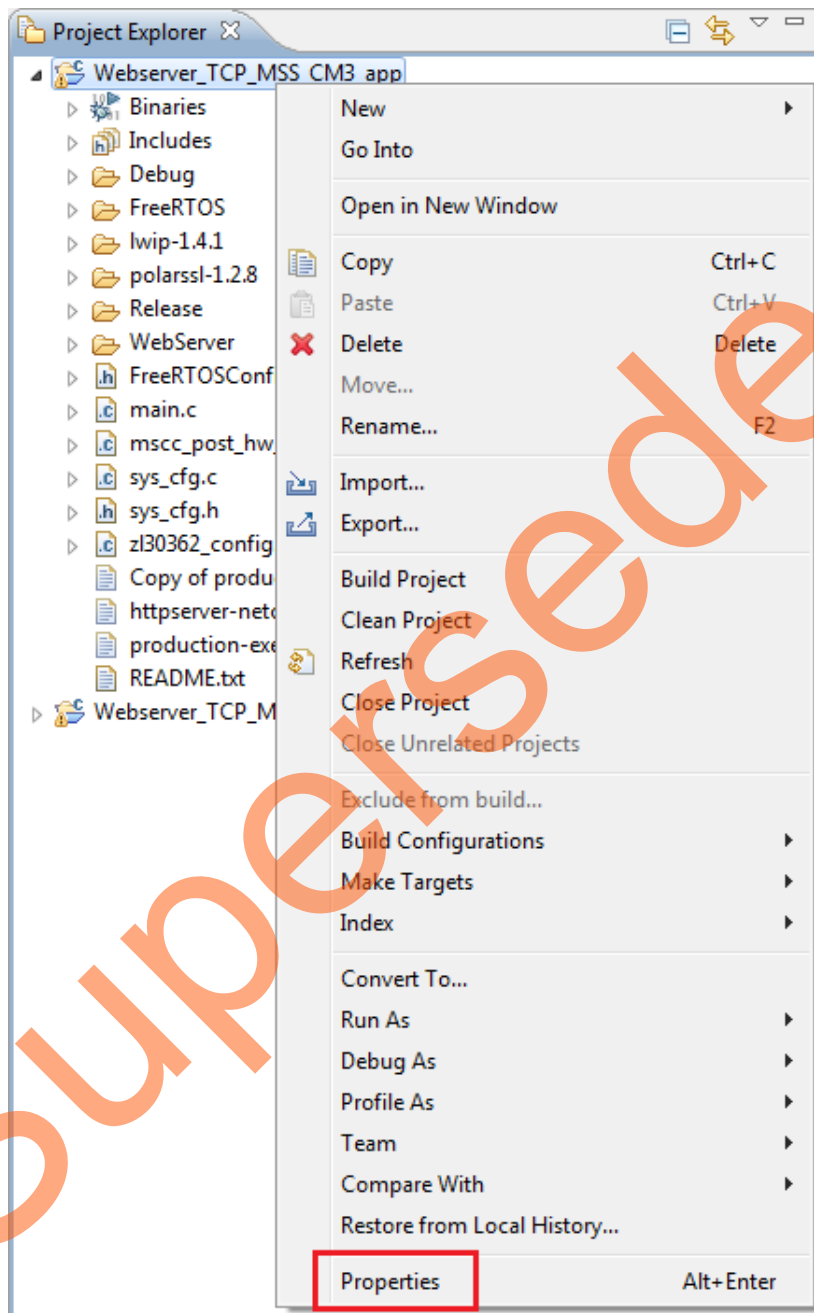

Figure 29 • Project Explorer Window of SoftConsole Project
1. To run the design in Static IP mode, right-click the **Webserver_TCP_MSS_CM3_app** in the **Project Explorer** window of SoftConsole project and select **Properties** as shown in Figure 29.